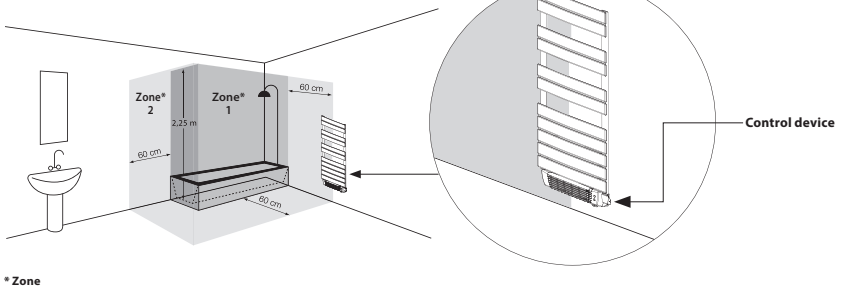
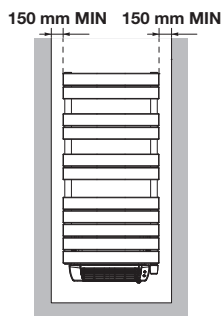

FIG. 4
FIG. 5
Respect the distances shown in figures 4,5. To avoid all risks for young children, install the appliance with the lowest heating element at least 600 mm from the floor. (Fig. 5)
Then screw the entire assembly to the bracket without tightening fully. Insert the bracket (B) onto the mounts (A) and fasten it using the 12 mm screws (F2). Fully tighten the 35 mm screw (F3) to fix the top of the towel warmer and cover it with the screw cap (E) provided. The appliance is now mounted on the wall. Check that the minimum distance of 11 cm from the wall (fig. 5) is respected for the full height of the appliance.